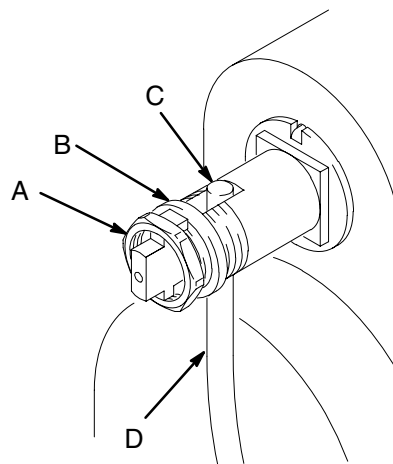

Fig. 1
1. *Pump:* To ground the pump, loosen the grounding lug locknut (A) and washer (B). Insert one end of a 12 gal (1.5 mm²) minimum ground wire (D) into the slot in lug (C) and tighten locknut securely. See Fig. 1. Connect the other end of the wire to a true earth ground. Check your local code.